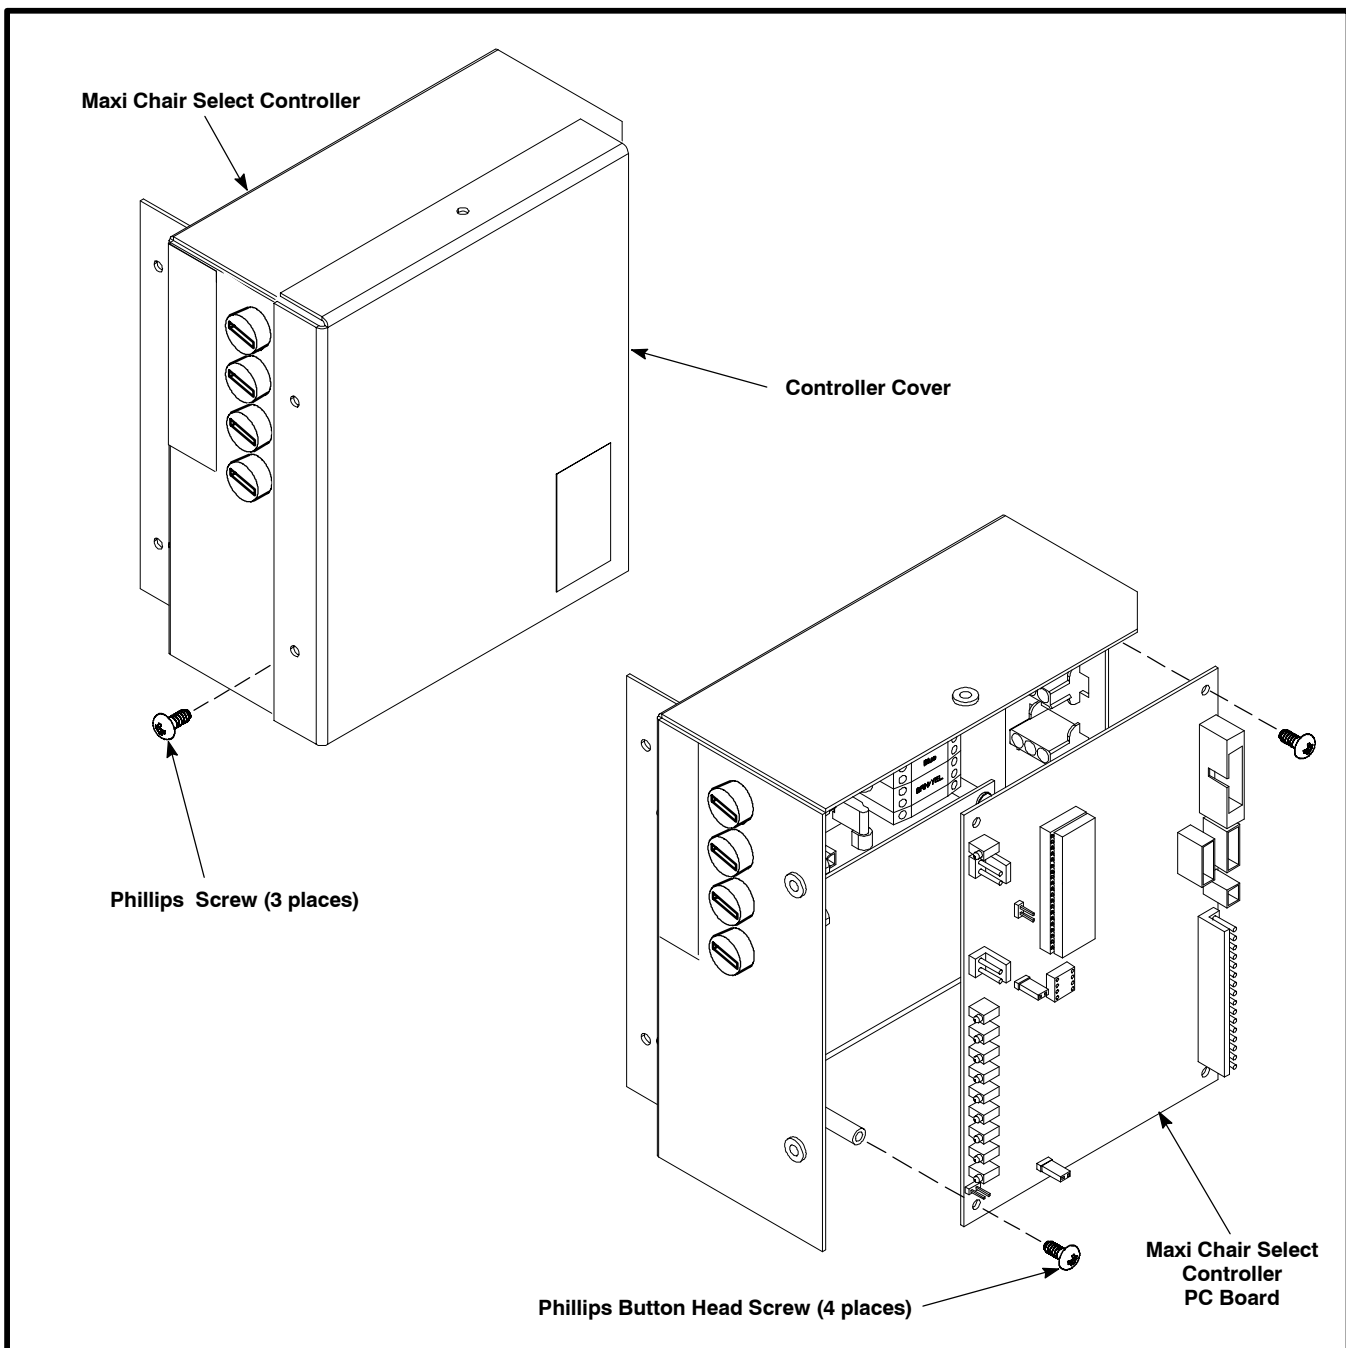

Figure 4-2. Replacing the PC Board
4. Remove the cover to the Maxi Select Controller (102-001-212) by using a No. 1 Phillips screwdriver to remove the 3 screws attaching it to the controller box. See Figure 4-2.
7. Remove the PC board and set it aside. Mark the PC board as "old" or "Replaced: mm/dd/yyyy" to distinguish it from the new one. See Figure 4-2.